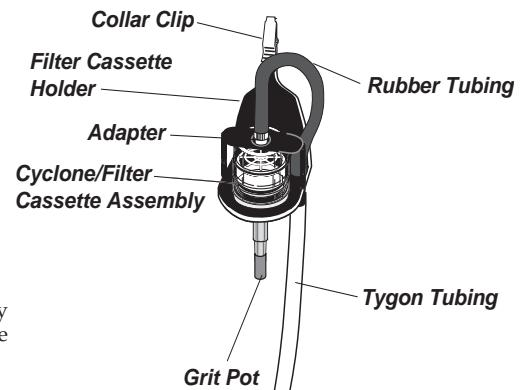

Figure 2
2. Moisten O-ring inside large end of calibration chamber (Cat. No. 225-01-03, see Figure 2) and push chamber over cyclone stem until it fits snugly.